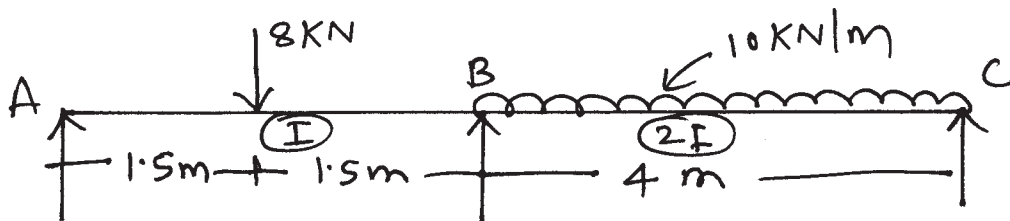

Fig. No. 5
- a) Determine Support moment by moment distribution method for a given continuous beam as shown in Fig. No. 5.